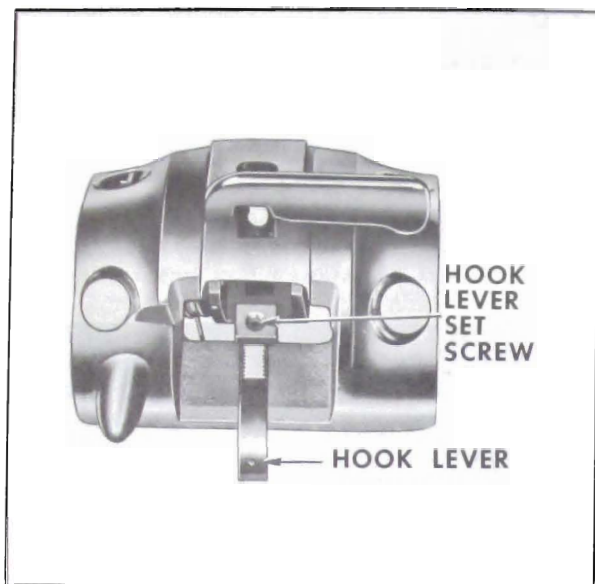

Figure 7-19—Front Roof Rail Lock Assembly
1. Loosen hook lever set screw (Figure 7-19).